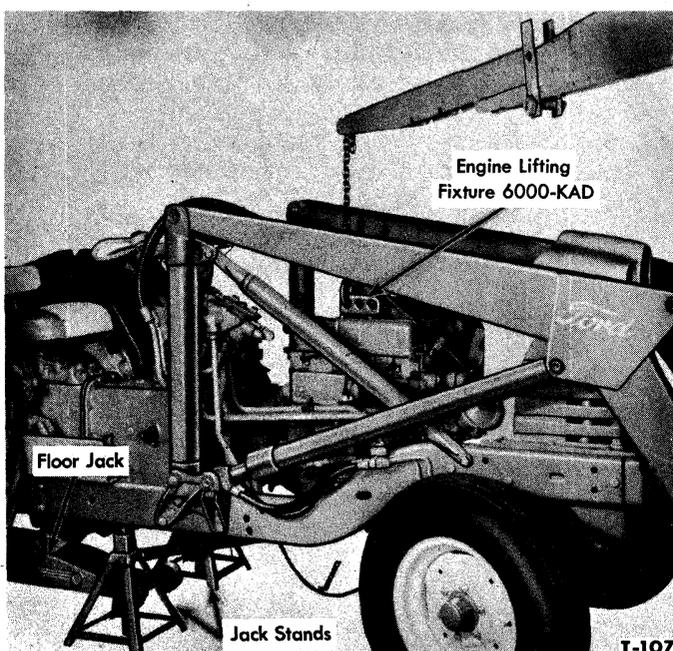

Figure 8—Removing Engine From Tractor
19. Remove the remainder of the engine-to-transmission attaching bolts. Carefully lift the engine away from the transmission as shown in Figure 8.